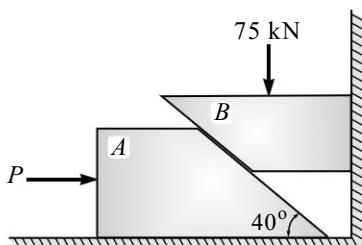

Fig. 8.E33
34. Refer to Fig. 8.E34 and draw the FBD for different bodies and find the minimum value of force F to move the block A up the plane.